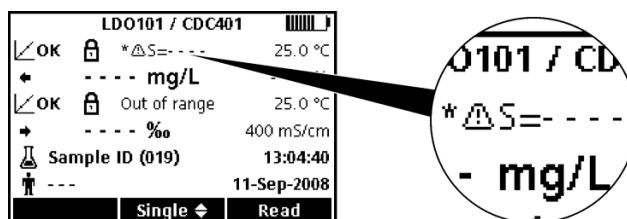

Figure 2 Salinity value out of range
6. Push **EXIT** until the meter returns to the measurement mode. The HQ40d meter is now set up to automatically use the salinity values obtained by the CDC401 with the LDO101 probe. If the salinity value is out of range, the display will show \*S= ----. This will appear above the dissolved oxygen reading as shown in Figure 2.